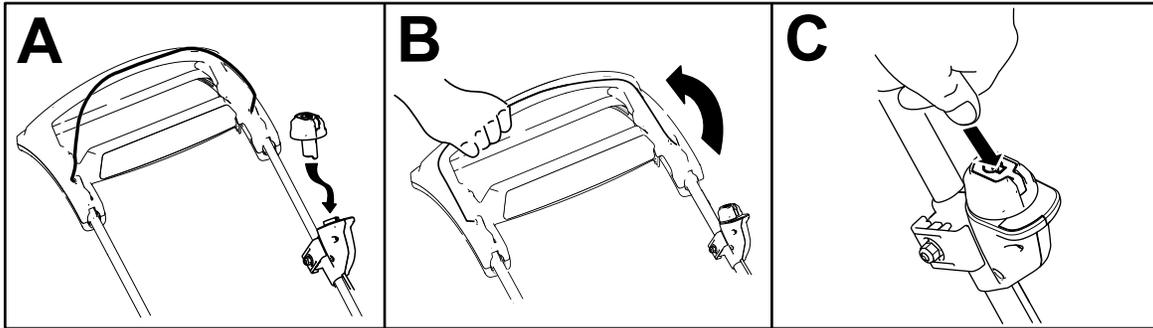

Figure 15
2. Insert the electric-start button into the electric-start switch (A of Figure 15).
3. Squeeze the blade-control bar and hold it to the handle (B of Figure 15).
4. Press the electric-start button and keep it pressed until the motor starts (C of Figure 15).